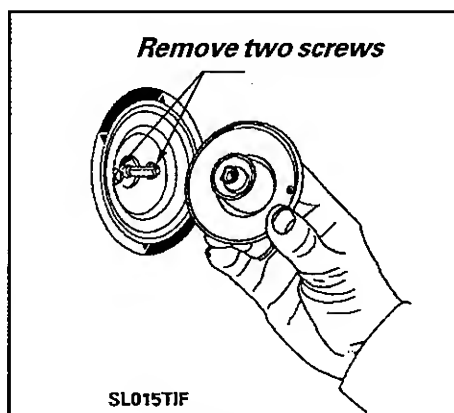

Figure 4-9
3. Remove the two timer mounting screws (now exposed on the control console) when the timer dial skirt is removed (Figure 4-9).